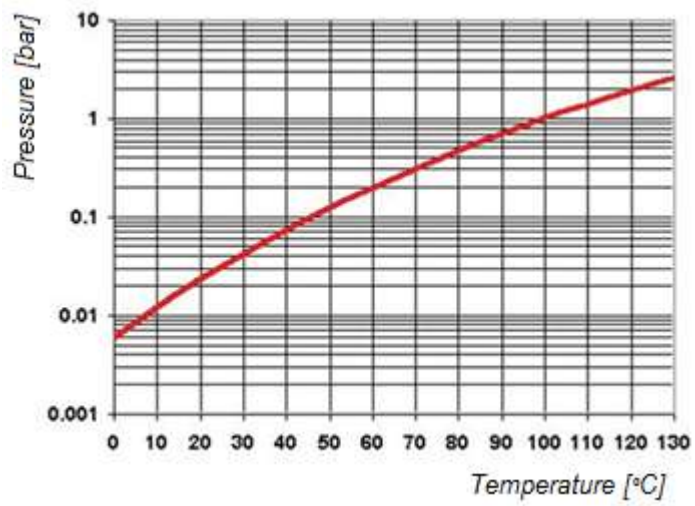

Figure 15: Water vapour line
- When the pressure decreases, the boiling point of water is reduced (see Figure 15). This physical law can cause a product to boil. In addition to contamination of the machine, this provides for loss of weight and quality of the product to be packed